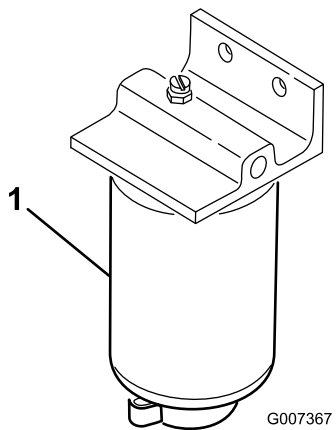

Figure 40
1. Place a clean container under the fuel filter (Figure 40).